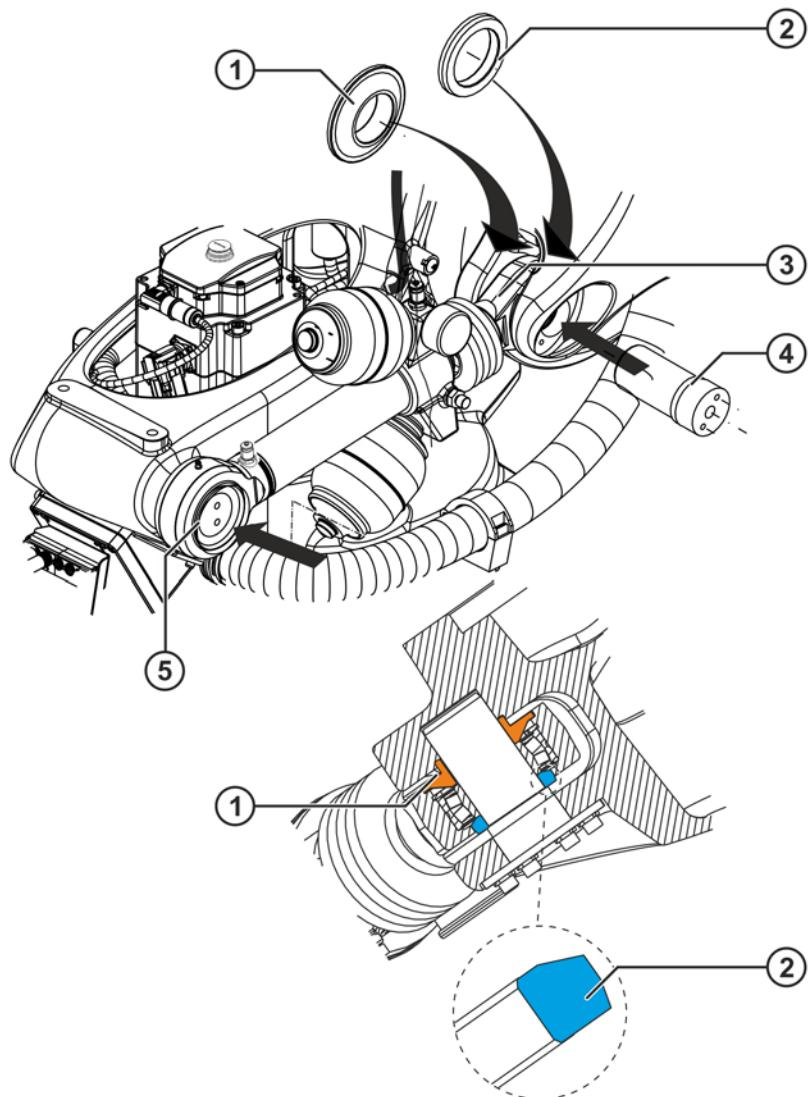

Fig. 11-33: Installing the counterbalancing system on a ceiling-mounted robot: pin
11. Move the link arm until the counterbalancing system can be inserted into the link arm. At the same time, move the element securing the link arm accordingly (>>> Fig. 11-33).
14. Insert the pin with the aid of the device (>>> Fig. 11-33).